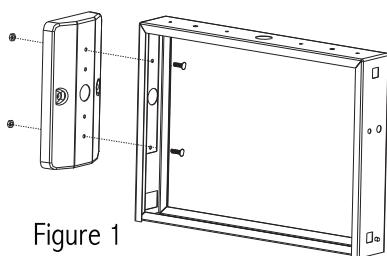

Figure 1
2. Remove the (3) KO's in either the side (for end wall mount) or top (for ceiling mount) of the fixture that lines up with the same holes on the CANOPY/I-BOX COVER. (Note: For CEILING MOUNT, you must remove the INTERNAL TRANSFORMER COVER on the inside top of the fixture. Please re-insert after installation.)
3. Using the (2) 1/2" long 8-32 screws and lock nuts, attach the canopy to the proper area of the exit sign (as shown in Figure 1).